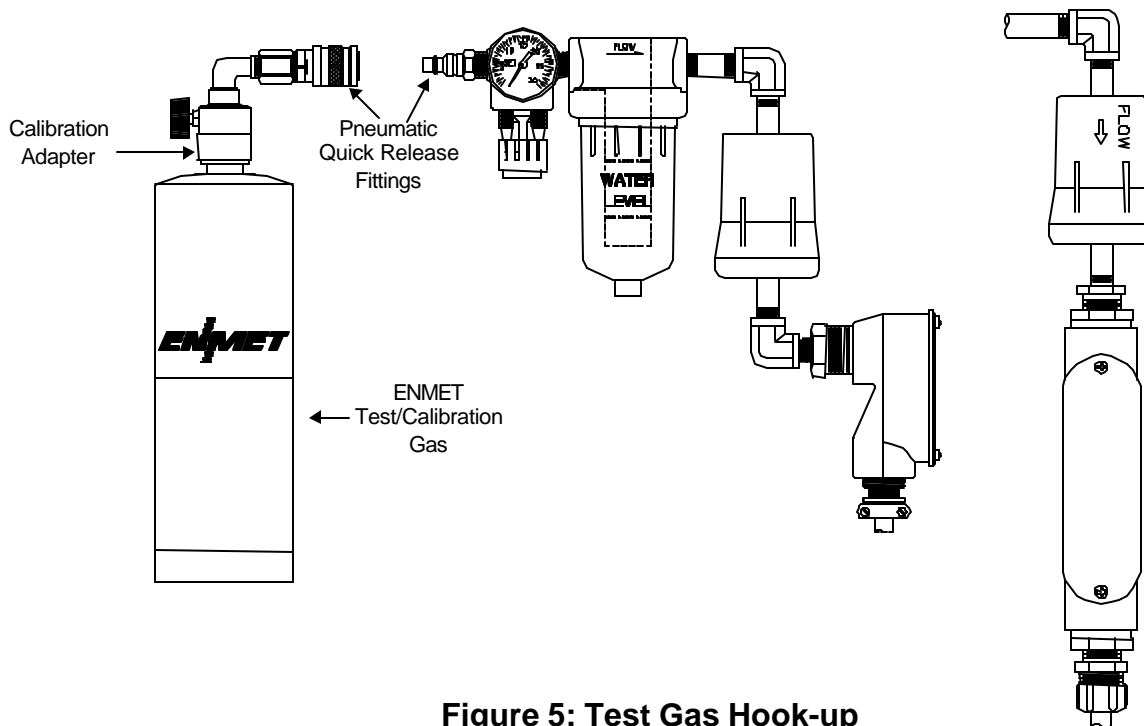

Figure 5: Test Gas Hook-up
To Verify The Instrument's Response Capability. Use a cylinder of high-level CO/air mixture (for example, 200 ppm CO for a 20 ppm CO calibrated unit) with a quick-disconnect gas fixture. See Figure 5.
The following procedure is for checking the calibration level and for recalibrating the Carbon Monoxide Channel of the ISA-44RAL-OD. Refer to Figure 5 and Figure 2.
5. Remove the compressed air line and insert the calibration apparatus (see Figure 5).